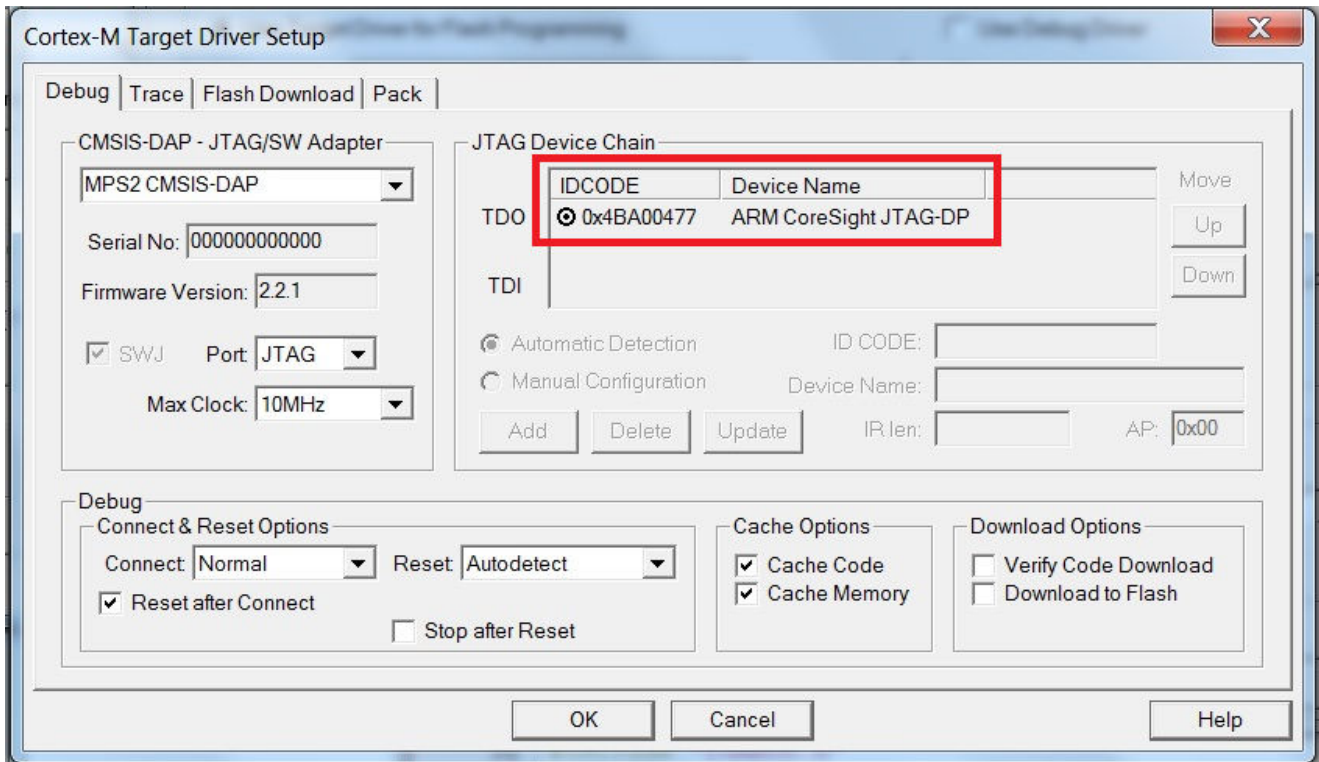

Figure 2-3 Debug options
4. Ensure that the IDCODE and Device Name is the same as shown in Figure 2-3 Debug options on page 2-21.